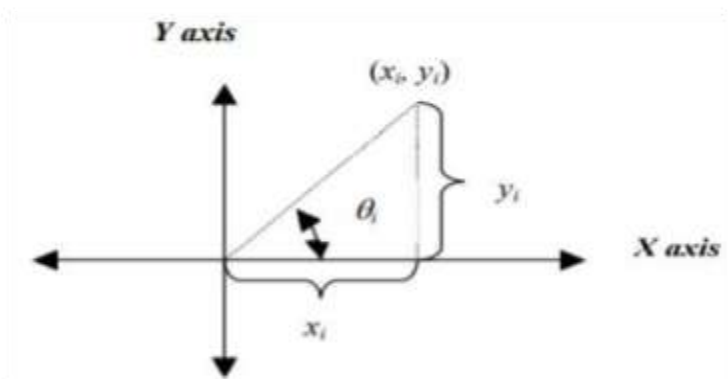

Figure 3.5.6: Angular Position of Customer i
The next step is to sweep clockwise with a ray emanating from the DC to obtain four cones, one for each vehicle, including all customers. The first step in defining the cones is to obtain the angular position of each customer. The angular position θ_i of customer i with coordinates (x_i, y_i) is the angle made relative to the x axis by the line joining the customer i to the origin (DC), as shown in Figure 3.5.6.